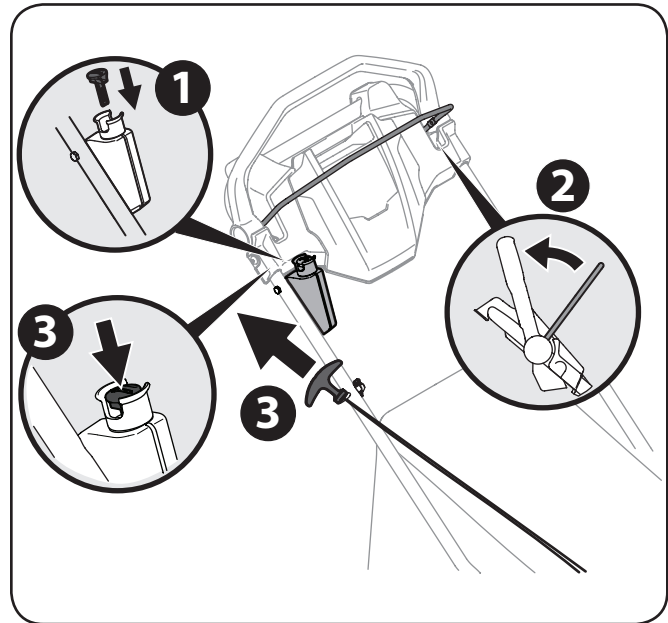

Figure 5-1
2. Standing behind the mower, pull the blade control back against the drive control. See Figure 5-1.
3. **Recoil Start:** While holding the blade and drive controls together firmly, grasp the recoil starter handle and pull rope out with a rapid, continuous, full arm stroke. See Figure 5-1. Keeping a firm grip on the starter handle, let the rope rewind slowly. Repeat until engine cranks. Let the rope rewind each time slowly.
Electric Start (If Equipped): Push the electric starter push key to start the engine. See Figure 5-1.